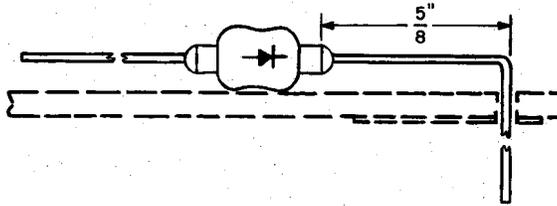
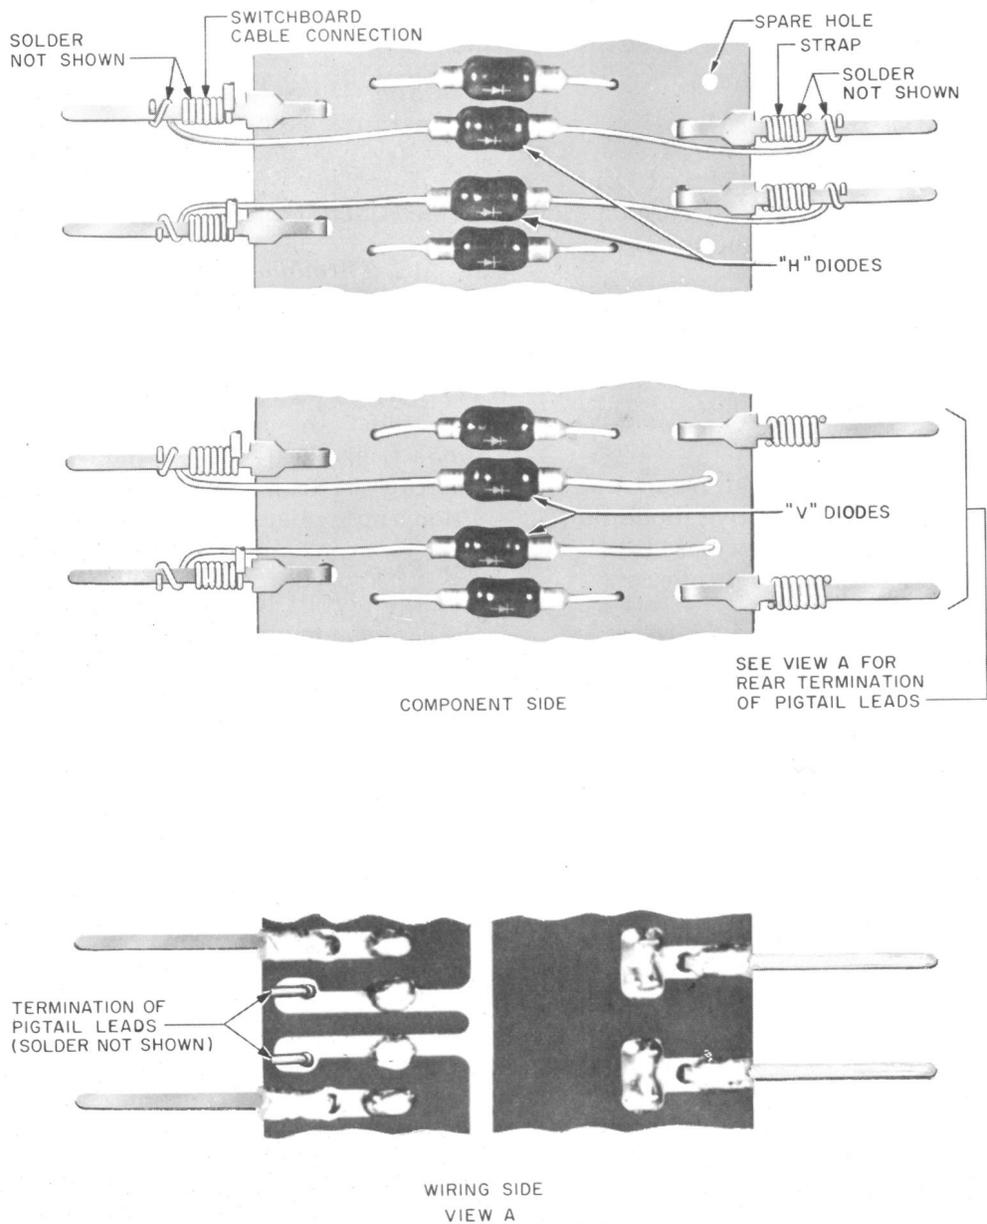

Fig. 2 - Forming Pigtail Lead
Fig. 3 - Method of Mounting Replacement Diodes
(2) **Step 2:** Form the pigtail lead of the replacing diode as shown in Fig. 2 so that the pigtail lead to be soldered to the conductor path will slip through the spare hole provided for this purpose (see Fig. 3).
(3) **Step 3:** With the P-long-nose pliers, insert the bent pigtail lead through the spare hole (see Fig. 3) and bend the lead, with the R-1102 spudger, toward the edge of the board. Cut the excess length of pigtail lead at the edge of the board.
(5) **Step 5:** With the P-long-nose pliers, wrap the replacing diode pigtail lead with a minimum of one and one-quarter turns around the top or bottom of the front terminal (see Fig. 3) as close to the switchboard cable connection as possible.
(3) **Step 3:** Using the P-long-nose pliers, connect the replacing diode to the front terminal by wrapping the pigtail lead with a minimum of one and one-quarter turns around the top or bottom edge of the terminal (see Fig. 3) as close to the switchboard cable connection as possible. The diode should be positioned approximately in line with the other diodes on the board.
(6) **Step 6:** Using the P-long-nose pliers, connect the replacing diode to the rear terminal by wrapping the pigtail lead with a minimum of one and one-quarter turns around the top or bottom edge of the terminal (see Fig. 3) as close to the strap as possible. The lead should not be so taut as to distort the terminal.
**4.01 V1 Through V19 Diodes:** For the subsequent replacement of a defective V diode, mounted as shown in Fig. 3, proceed as follows.
**4.02 VO and HO Through H19 Diodes:** For the subsequent replacement of a defective VO or H diode, mounted as shown in Fig. 3, proceed as follows.